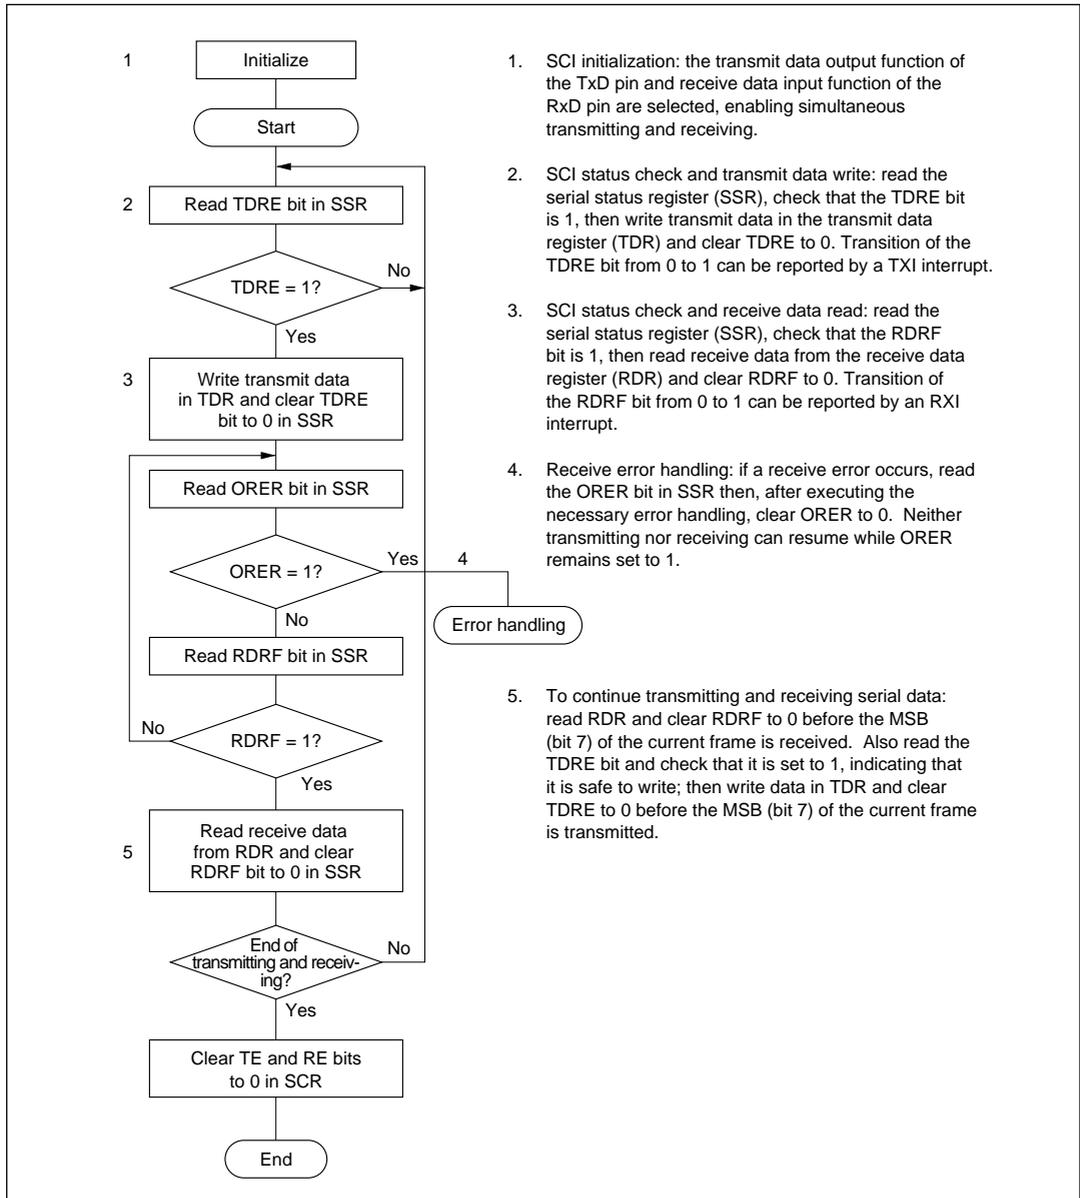

Figure 12-17 Sample Flowchart for Serial Transmitting and Receiving
- **Transmitting and Receiving Serial Data Simultaneously:** Follow the procedure in figure 12-17 for transmitting and receiving serial data simultaneously. If clock output mode is selected, output of the serial clock begins simultaneously with serial transmission.